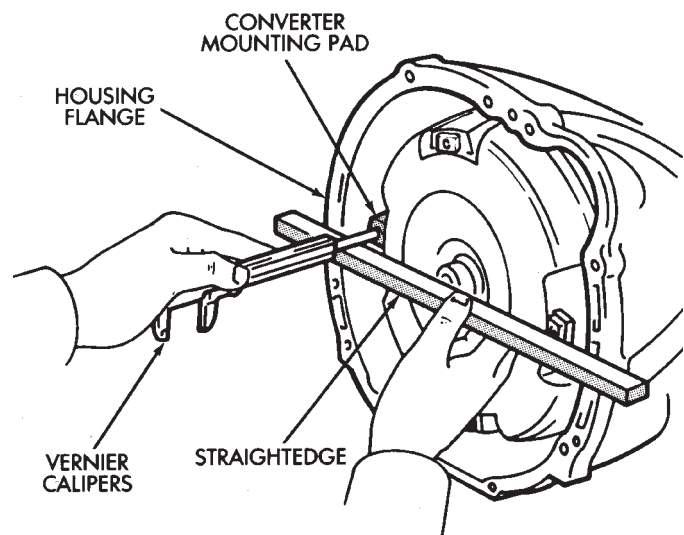

Fig. 70 Checking Converter Installation
(101) Verify that converter is seated by measuring distance between converter housing flange and one of the converter mounting pads (Fig. 70). Use straightedge and vernier calipers to measure distance. On 6-cyl. transmissions, distance should be 16.5 mm (0.650 in.).